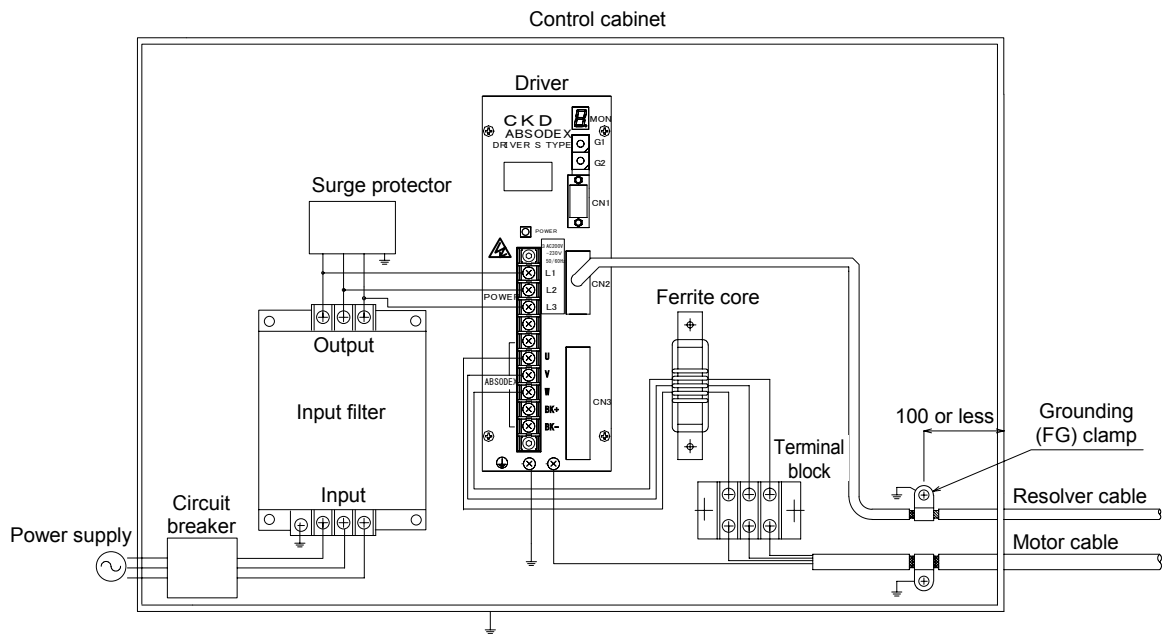
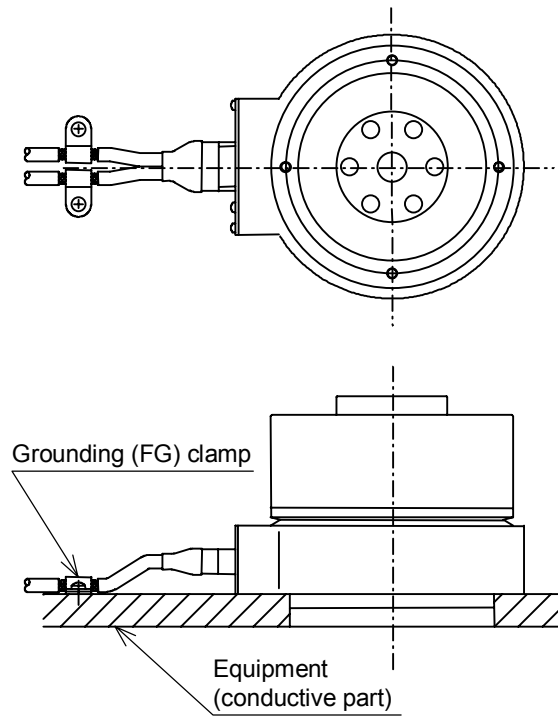

Fig. 13.2 Installation of Driver (in case of 3 phases)
Fig. 13.5 Grounding Example on Actuator Side
Figs. 13.2 and 13.3 indicate installation methods. Install the designated filter and ferrite core in the inputs and outputs of the driver and build in a conductive enclosure. Strip the motor and resolver cables of sheath and use a grounding (FG) clamp or the like to make the shield into contact with the enclosure. Ground the actuator as shown in **Fig. 13.5**. Parts used for installation are shown in **Table 13.5**.
- On the actuator side, strip the motor and resolver cables of the sheath as close to the actuator as possible, and ground the shield. (Refer to Fig. 13.5.)